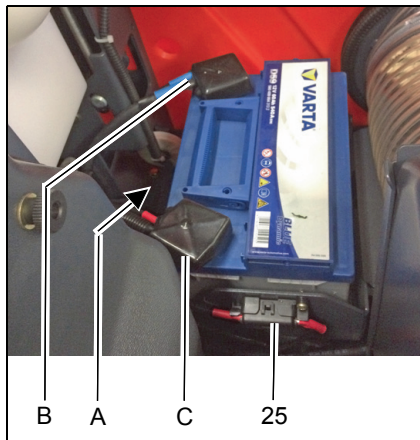

Fig.27
3. Remove the right side panelling and release the battery holder (Fig. 27/A).
4. Disconnecting the battery: disconnect the minus pole (Fig. 27/B) first, then the plus pole (Fig. 27/C)!
7. Connecting the battery: connect the plus pole (Fig. 27/C) first, then the minus pole (Fig. 27/B).